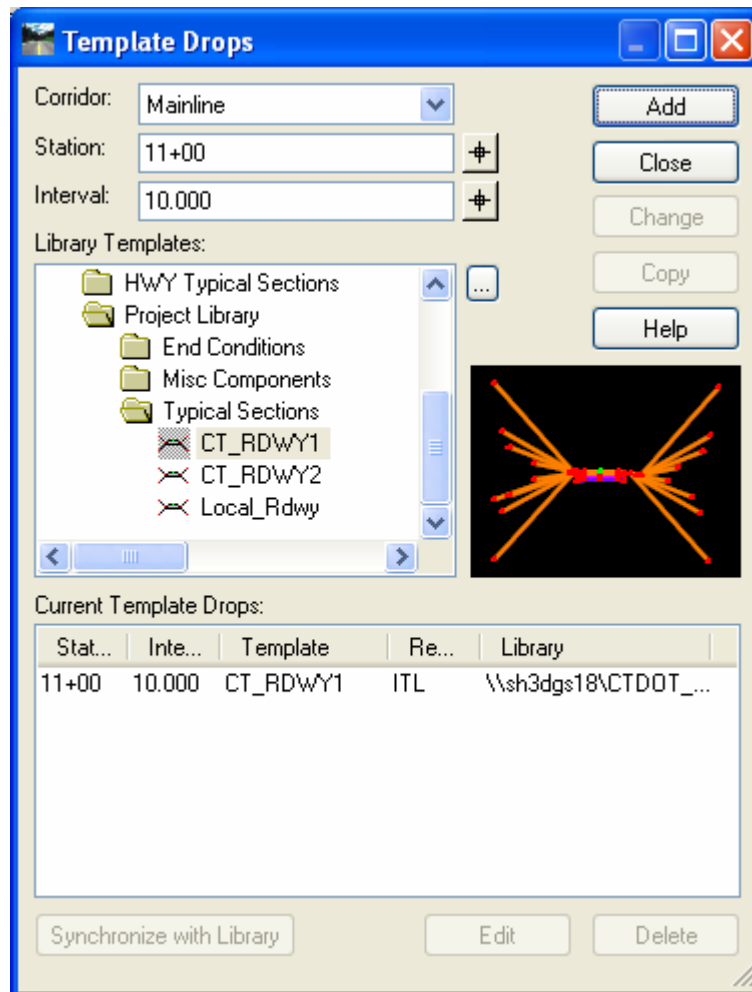

Figure 7-2 InRoads Template Drops Dialog Box
- D. In the Library Templates window, expand the library folders and select the design template, e.g. CT_RDWY1. Click the **Add** button. Figure 7-2 displays the Template Drops window from which to apply and adjust templates.